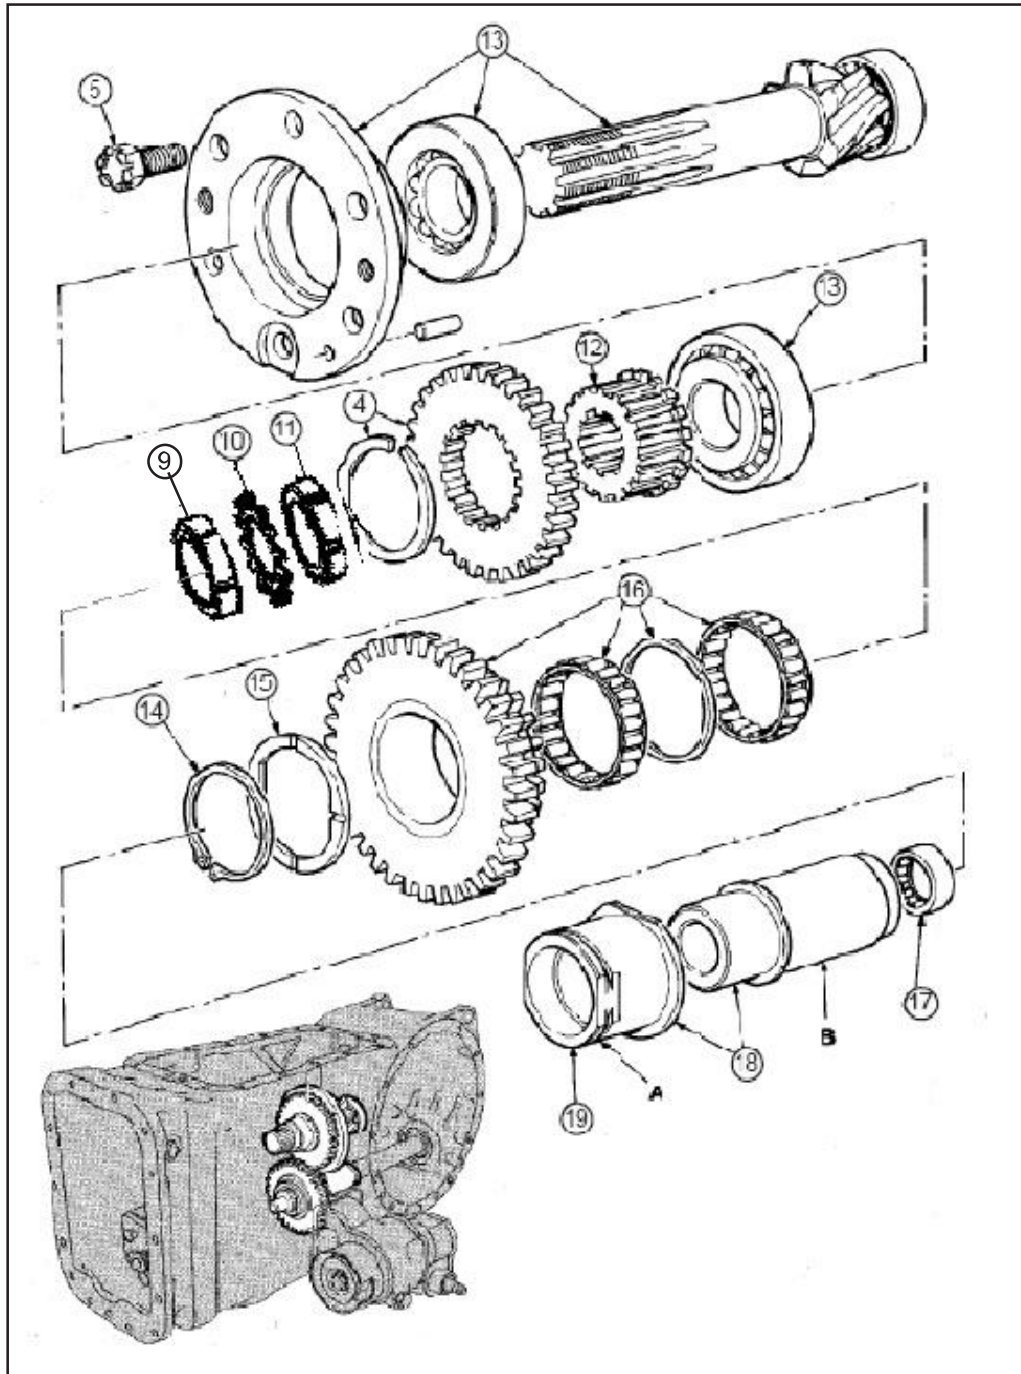

Fig 14
**NOTE :** Refer to Fig 14.
8. Release the tab washer (Item 10 in Fig 14) from the lock nut by using a cold chisel or screw driver.